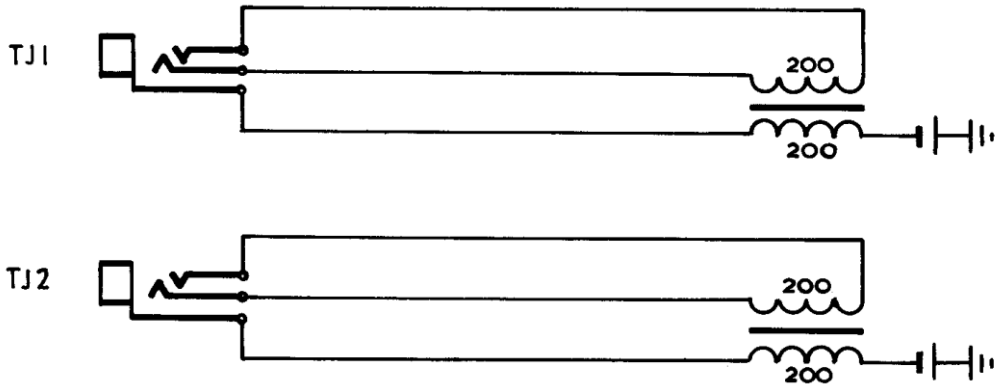

FIG. 25. CORD TEST CIRCUIT.
8.2 Cord Testing. Two test jacks wired to identical circuits (Fig. 25) allow any pair of cords to be tested for:-